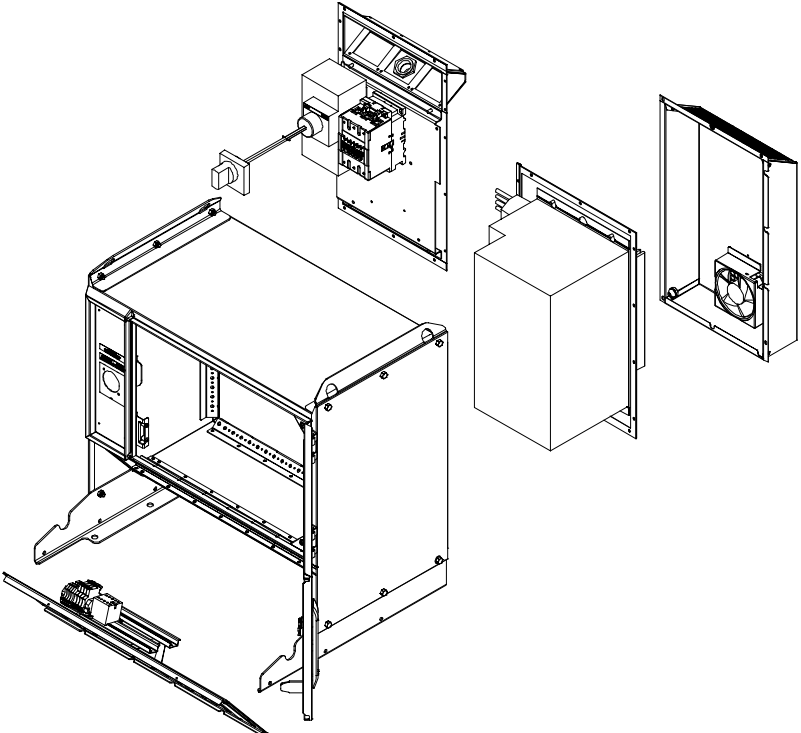

Figure 106 Exploded view drawing of the Spot Welding cabinet.
- Modular built for easy repair and installation (see Figure 106 below)